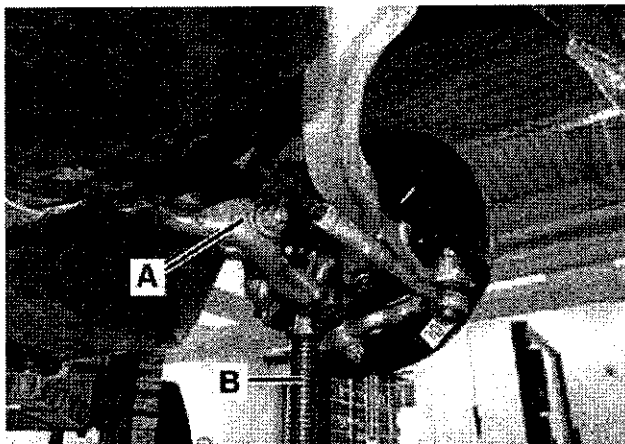
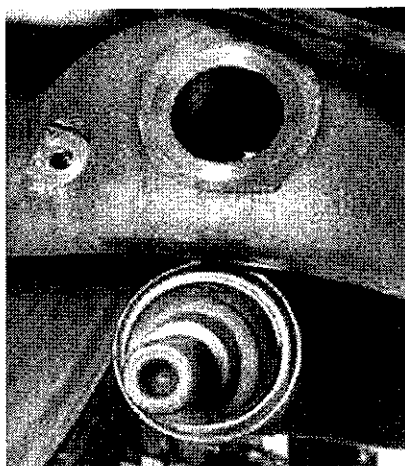

Figure 3
Figure 4
2. Support lower control arm (A, Figure 3) with under hoist utility stand (B).
4. Pull ABC strut backward and raise lower control arm (A, Figure 3) upward using under hoist utility stand (B, Figure 3) until ball joint is accessible (Figure 4).